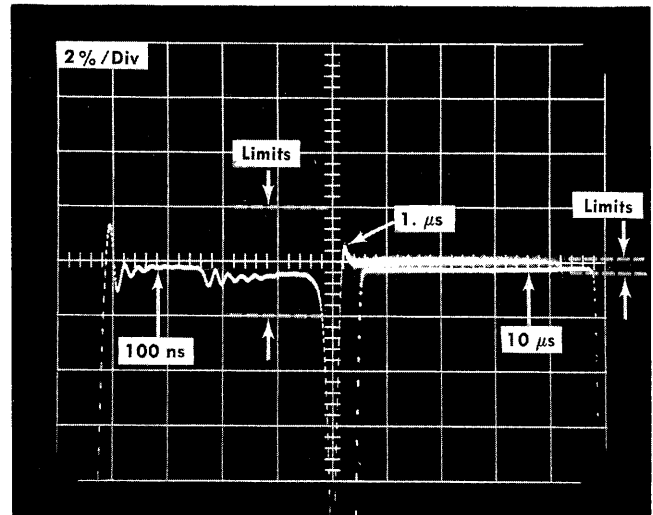

Fig. 6-8. Typical display showing Amplitude checks at 3 time periods (triple exposure).
o. Change the PERIOD switch on the Type 284 to 100 ns, and change the Equivalent Time/cm on the Type 5T3 to  $10\ \text{ns}/\text{cm}$ . Observe the upper portion of the displayed square wave to be within 20 mV after the first 20 ns. See Fig. 6-8.